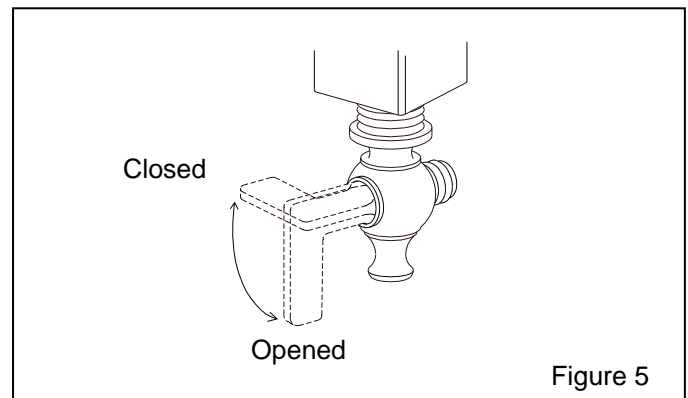

Figure 5
3.2.10 Open the safety petcock on the inlet section of the Millennium valve. The petcock is open when the lever is in-line with the petcock, as shown in Figure 5.